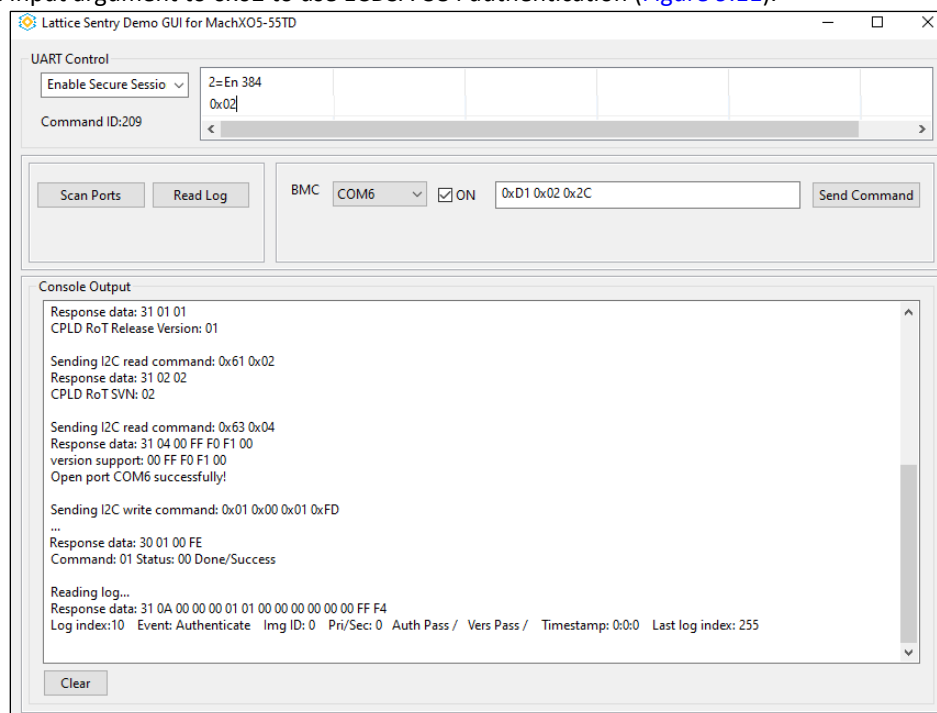

Figure 9.11. Enable Secure Session Options
14. Change the input argument to 0x02 to use ECDSA-384 authentication (Figure 9.11).